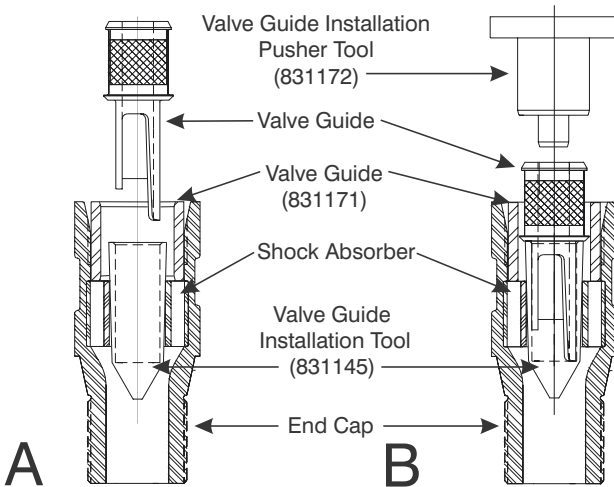

Figure 9-9. Place End Cap, Valve Guide and Installation Tools in the Arbor Press.
9. Position the End Cap (8) in an arbor press with the threaded end down. Insert the Valve Sleeve Guide 831171 into the upper end of the End Cap, as shown in Figure 9-9-A.
10. Place the Valve Guide Installation Tool 831145 in the center bore of the Shock Absorber (9), as shown in Figure 9-9-A.
11. Refer to Figure 9-9-A and slide the Valve Guide (7) into the Valve Guide Installation Tool P/N 831145.
12. By hand, push the Valve Guide and Tool 831145 into the Shock Absorber until it seats firmly. This centers the Valve Guide on the Shock Absorber and Valve Sleeve Guide P/N 831171, as shown in Figure 9-9-B.
13. Center the Valve Guide Installation Pusher 831172 on the upper end of the Valve Guide as shown in Figure 9-9-B.